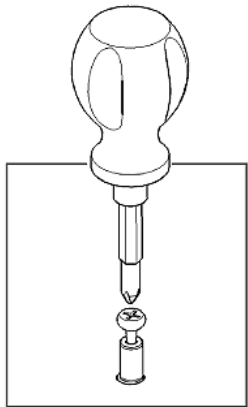

Figure 1
Insert Cam Lock Screws into the pre-drilled holes of Top (A), Side Panels (B), (C), (D) and (E) and Bases (G). (see Figure 1)